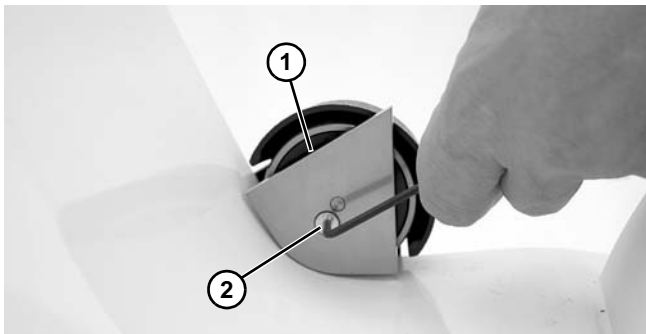

Figure 62
7. If equipped, install lower knuckle return roller assembly (**Figure 62, item 1**) with screws (**Figure 62, item 2**) on both sides of conveyor.